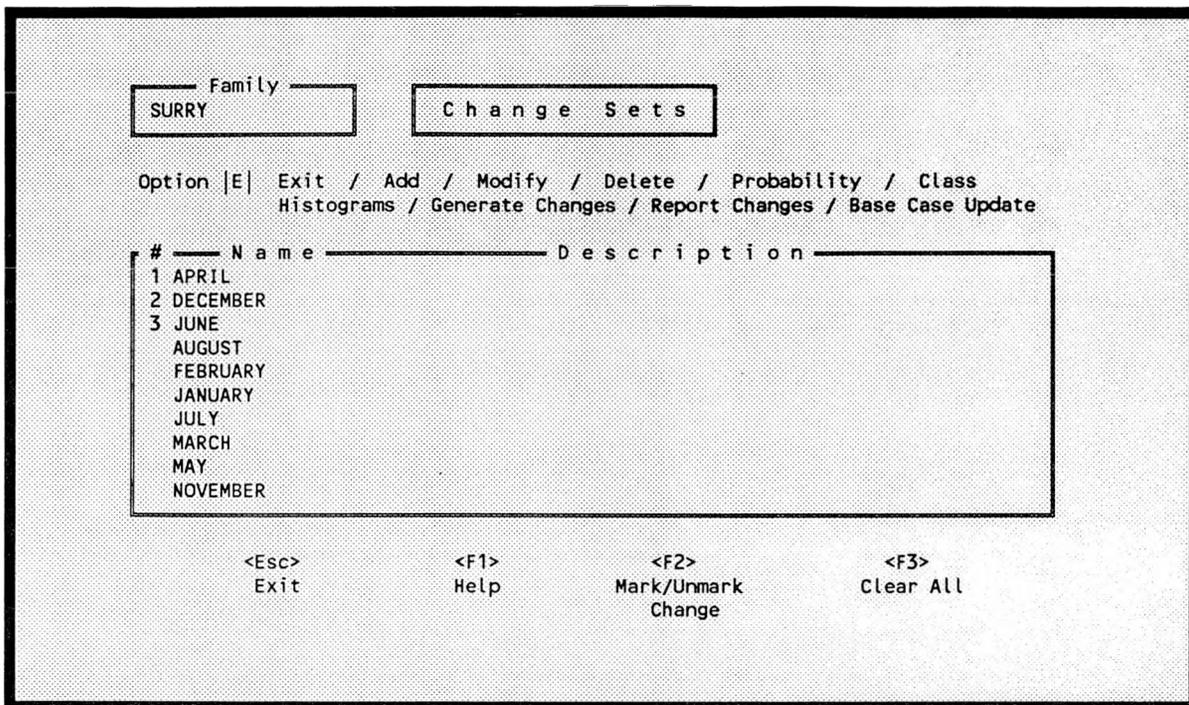

Figure 156. Change sets menu.
Highlight Modify Event Data or type <M> to select this option and press <Enter>. The Change Sets screen shown in Figure 156 will be displayed. A change set is a set of sensitivity data modifications to be applied to the basic events. Change sets modify the current case basic event failure. A change set consists of probability and/or class changes for a group of basic events.
7.2.5.1 Exit This function returns you to the Change Sets menu (Figure 156). To invoke this function, type <E> (Exit) in the option field and press <Enter>, or press the <Esc> key.